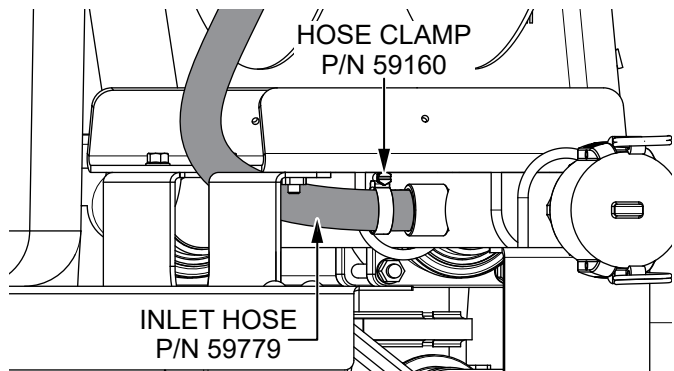

Figure 12. Secure Inlet Hose To Hose Barb
10. Secure the **hose reel inlet hose (P/N 59779)** to the hose barb using the **hose clamp (P/N 21552)**. Tighten the hose clamp using a 5/16" socket or slotted screwdriver. See Figure 12.